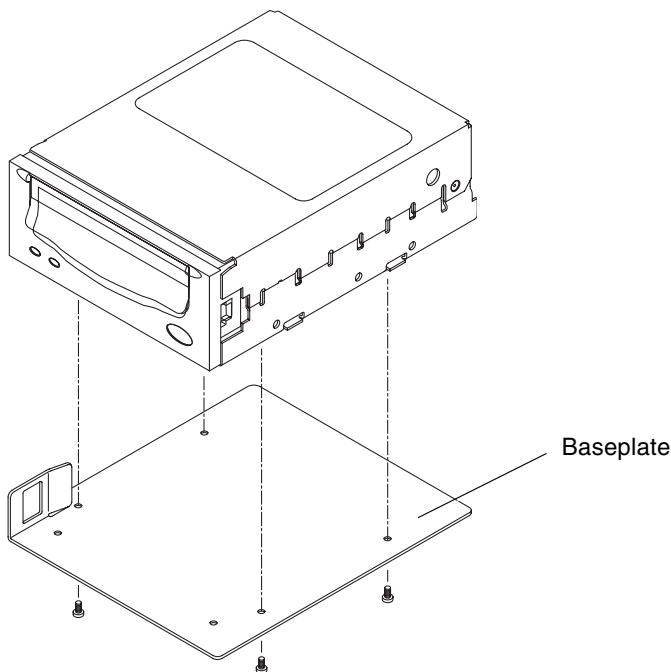

FIGURE 5-12 Removing or Attaching the Baseplate to the Tape Drive
7. Remove the four screws securing the baseplate to the drive you removed. Remove the baseplate (FIGURE 5-12).
8. Attach the baseplate to the new tape drive. Use the four countersunk screws shipped with the drive (FIGURE 5-12).